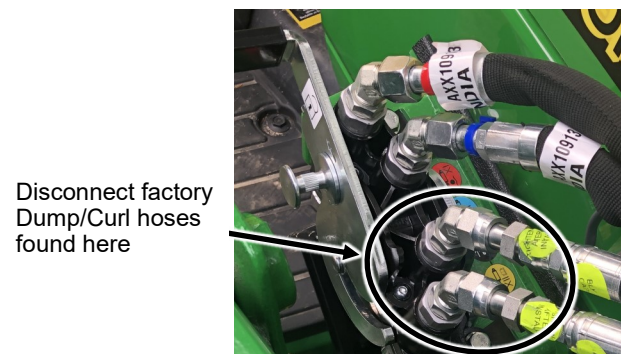

Fig. 6 (Disconnect Dump/Curl Hoses from Single Point Hydraulic Connector)
6. Disconnect the opposite ends of these hoses at the single point hydraulic connector on the tractor. These should be the hoses with the yellow and black dust caps. Hold the 45° fitting body with an 11/16" wrench and loosen the swivel fitting on the hose with a 13/16" wrench. See Fig. 6